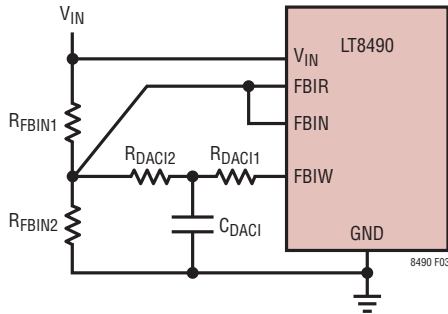
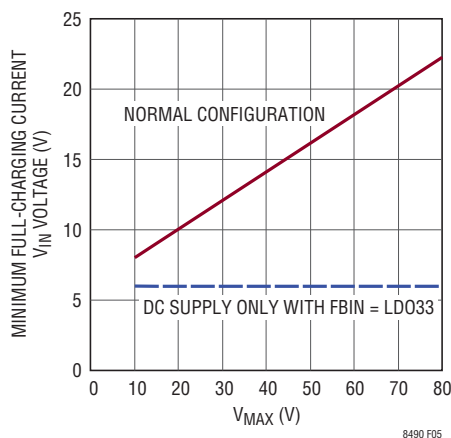

Figure 3. Input Feedback Resistor Network
Figure 5. Minimum Full Charging Current  $V_{IN}$  Voltage
The passive component network shown in Figure 3 is required to properly measure and modulate the input supply voltage. This network is required whether the supply is a solar panel or a DC voltage source.
3. **LOW INPUT VOLTAGE EFFECTS:** Figure 5 shows the minimum input voltage, below which the maximum charging current can be reduced. This limit is a function of the input  $V_{MAX}$  as discussed previously in the Input Voltage and Modulation Network section. Maximum charging current can reduce as FBIN gets closer to its regulation voltage of 1.205V (typical). This is not normally a significant issue unless 1) the charger is powered by a low voltage DC power supply or 2) a low voltage panel is used with a charger that was configured for a much higher voltage panel. The farther that  $V_{IN}$  is below the Normal Configuration line in Figure 5 the more the current can reduce.
When  $V_{IN}$  is powered by a DC voltage supply, maintain  $V_{IN}$  higher than the Normal Configuration line in Figure 5. Operating  $V_{IN}$  below this line can reduce the maximum charging current and the  $V_{S2}$  and  $V_{S3}$  charging voltages. If  $V_{IN}$  is never going to be supplied by a solar panel then FBIN can be disconnected from FBIR (see Figure 3) and reconnected to the LDO33 pin. This allows the charger to operate with  $V_{IN}$  as low as 6V with no charging current or voltage reduction.
When using a solar panel supply, choose a panel having a maximum open-circuit voltage ( $V_{OC}$ ) close to  $V_{MAX}$  (discussed in the prior Input Voltage Sensing and Modulation Network section). The maximum power point voltage is typically well above the voltage limit in Figure 5 and current limiting is rarely an issue. Avoid using solar panels that operate dramatically below  $V_{MAX}$ , particularly if the maximum power point voltage is typically below the Normal Configuration line in Figure 5.
**MINIMUM INPUT VOLTAGE REQUIREMENT:** When power supply mode is enabled, the LT8490 will operate from an input as low as 6V. However, charging current capability can become limited at low input voltages depending on the  $V_{MAX}$  voltage used to select the input voltage sensing network (see previous Input Voltage Sensing and Modulation Network section). Figure 5 shows the minimum input supply voltage required, below which charging current can become less than the maximum output current limit. If the LT8490 is powered by a DC supply only, the minimum input voltage shown in Figure 5 can be reduced to 6V by
(1) disconnecting FBIN from FBIR and (2) connecting the FBIN pin directly to LDO33.